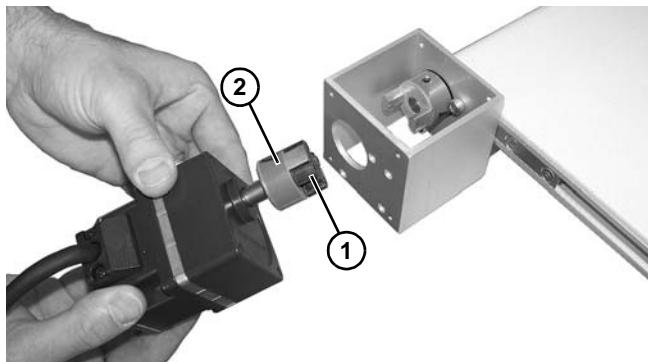

Figure 26
9. Install new coupling insert (Figure 26, item 1) onto coupling half (Figure 26, item 2).